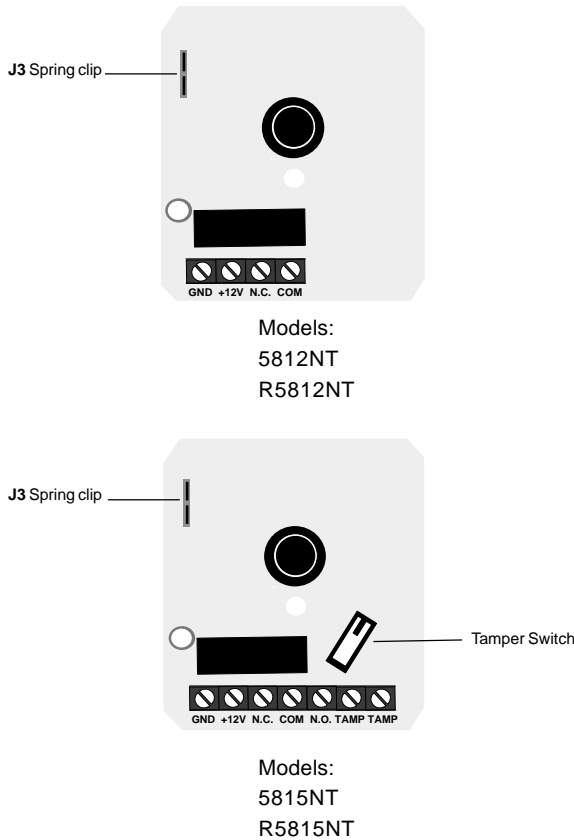

Figure 7 - Wiring Diagrams
7. Connect the system wires to the appropriate screw terminals on the base and tighten the screws. See Figure 7.